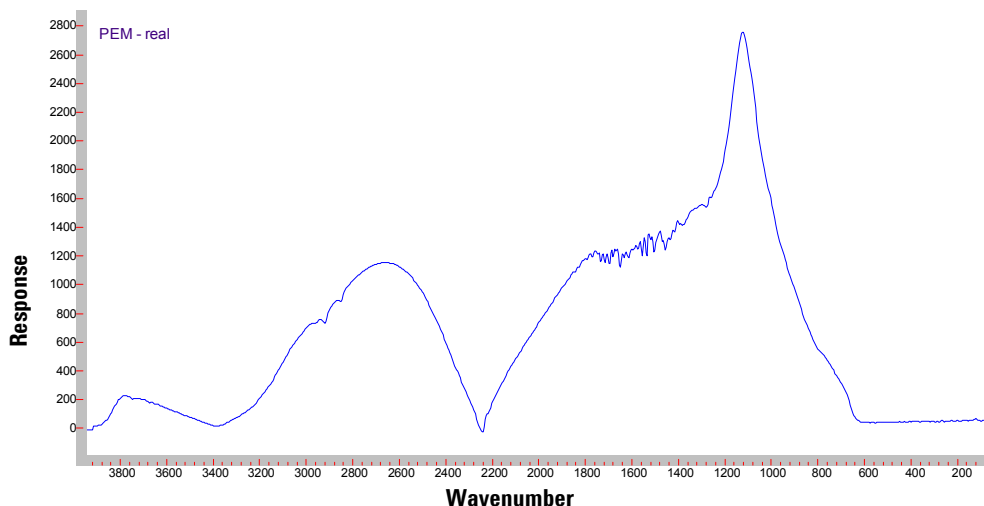

Figure 8. AC spectrum ($I_p - I_s$)
- 12 When the scan is complete, select Spectrum 1 and Spectrum 5. Go to **Transforms > Fourier Transforms**. Set Apodization Function = TRIANGULAR and set Zero Function = TRIANGULAR and set Zero Filling factor = 4 and then click OK to compute the interferograms. Spectrum 5 should look similar to Figure 8.